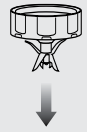

fig. 1
- 4 Place the Pro Extractor Blades Assembly onto the cup and tightly screw it on clockwise until you have a good seal. (Fig. 1)
- 3 Holding the Stacked Blade Assembly by the top of the shaft, place it onto the drive gear inside the pitcher. Ensure that the Stacked Blade Assembly is seated properly and is standing upright. (Fig. 1)